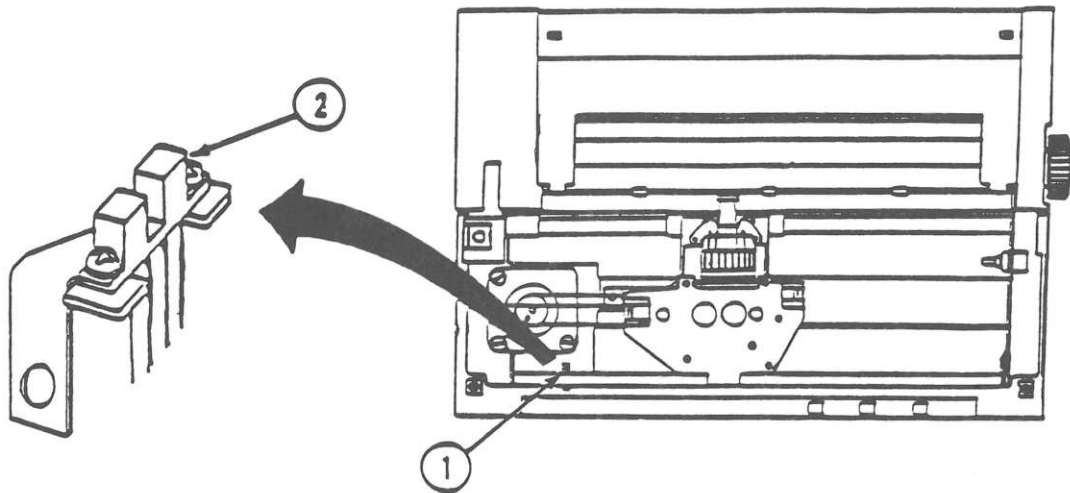

FIGURE 11
6. Find the detector plate. It is on the left front side of the printer, hidden just below the guide rail. (Figure 11, #1.)
(Figure 11, #2.)